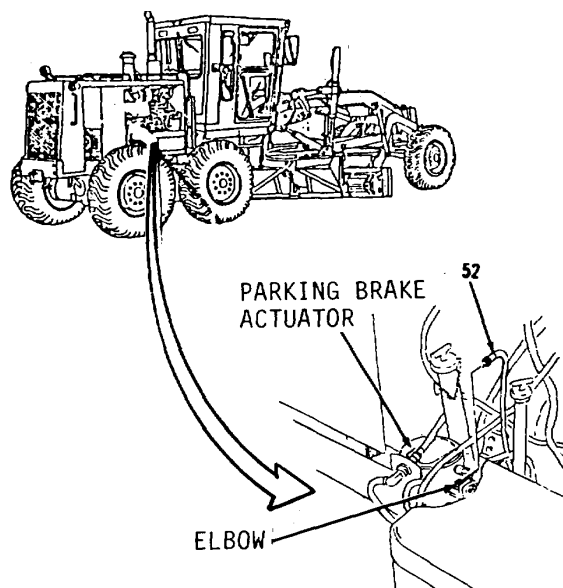

Figure 16-15.
- 26. Disconnect hose (52, Figure 16-15) and apply shop air supply line to elbow on parking brake actuator.